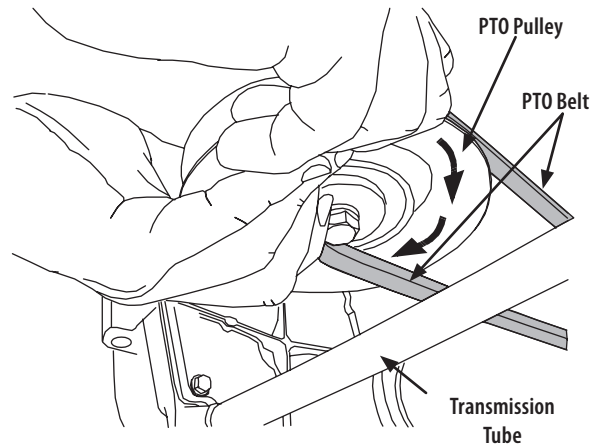

Figure 33
- While still holding the belt downward, continue turning the PTO pulley until the belt is rolled off the pulley. Refer to Figure 33.
11. Pull the right side of the belt rearward and place the narrow V side of the belt into the PTO pulley. See Figure 33.
12. While holding the belt and pulley together, rotate the pulley to the left (See Figure 33). Continue holding and rotating the pulley and belt until the belt is fully rolled into the PTO pulley.